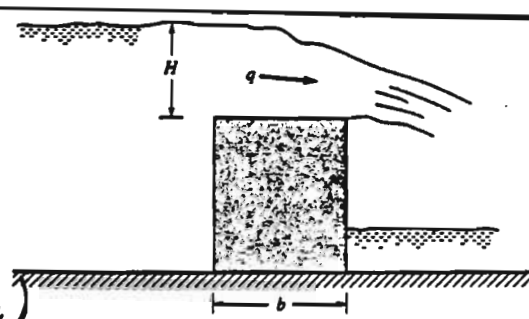

FIGURE P7.10
7.10 Water flows over a dam as illustrated in Fig. P7.10. Assume the flowrate,  $q$ , per unit length along the dam depends on the head,  $H$ , width,  $b$ , acceleration of gravity,  $g$ , fluid density,  $\rho$ , and fluid viscosity,  $\mu$ . Develop a suitable set of dimensionless parameters for this problem using  $b$ ,  $g$ , and  $\rho$  as repeating variables.